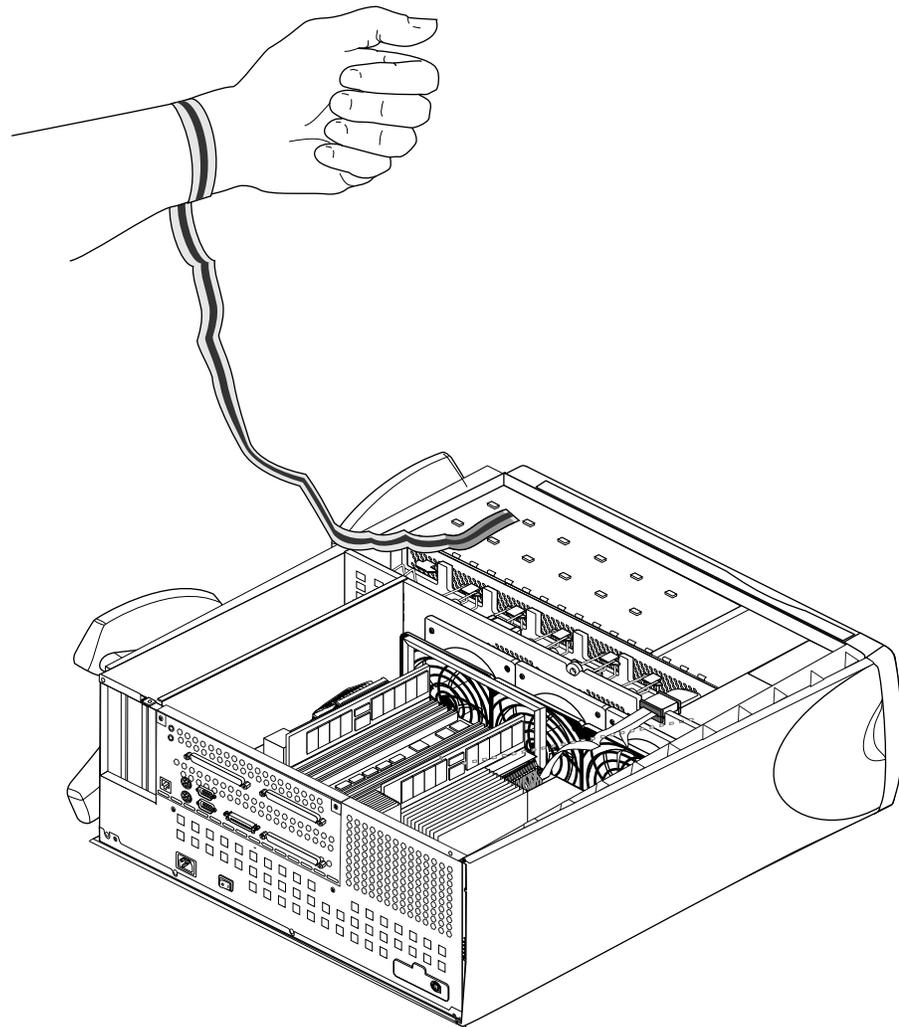

Figure 6-1 Attaching A Grounding Wrist Strap
- Attach the strap to your wrist as shown on the wrist-strap package, and in Figure 6-1.